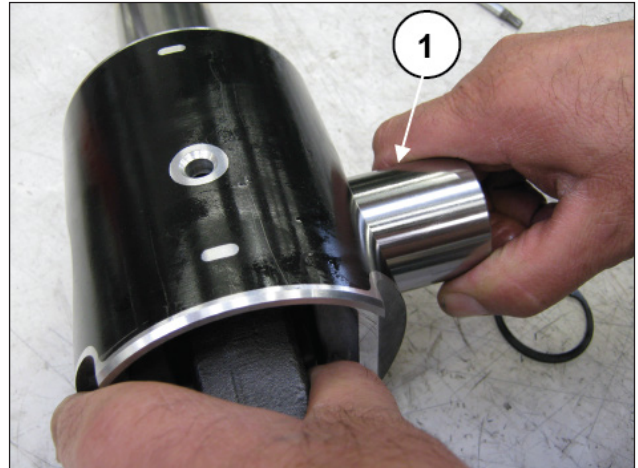
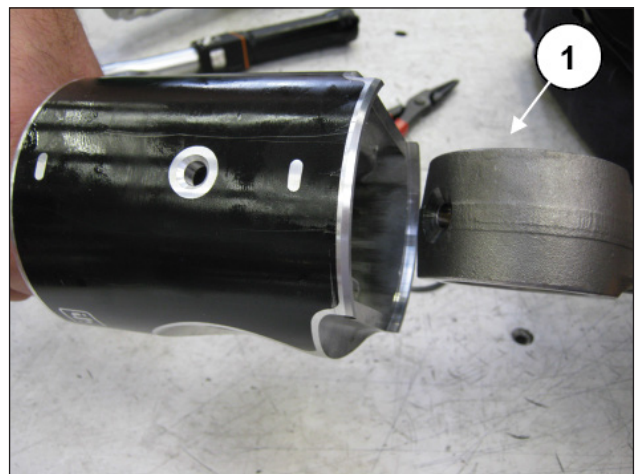

Fig. 44
Fig. 45
Remove the spindle (pos. ①, Fig. 44) and extract the conrod (pos. ①, Fig. 45).